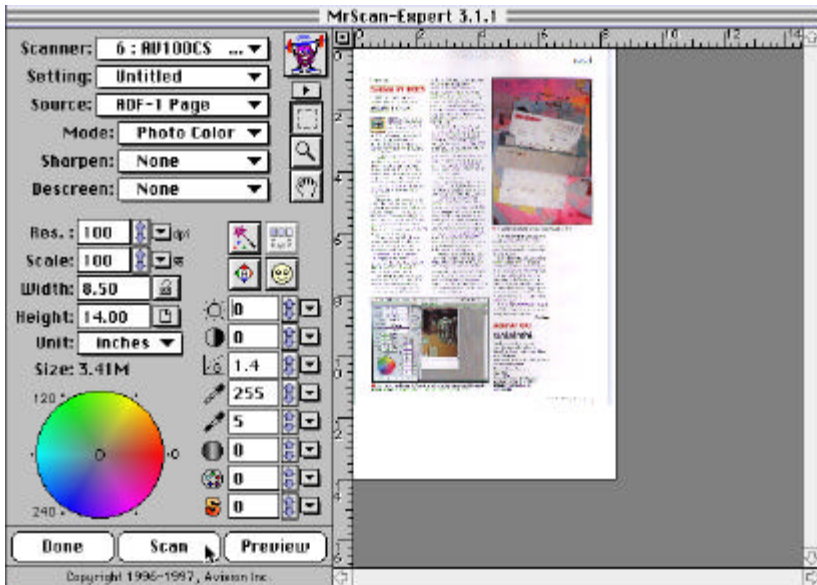

Figure 4-1 The Mac Plug-in user interface
2. Select MrScan-Expert from the submenu of *Acquire*. The Mac Plug-in user interface as Figure 4-1 will pop up on the screen.